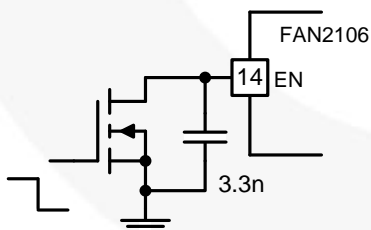

Figure 21. Enabling with External Control
FAN2106 has an internal pull-up to the ENABLE (EN) pin so that the IC is enabled once V_{CC} exceeds the UVLO threshold. Connecting a small capacitor across EN and AGND delays the rate of voltage rise on the EN pin. The EN pin also serves for the restart whenever a fault occurs (refer to the *Auto-Restart* section). If the regulator is enabled externally, the external EN signal should go HIGH only after V_{CC} is established. For applications where such sequencing is required, FAN2106 can be enabled (after the V_{CC} comes up) with external control, as shown in Figure 21.